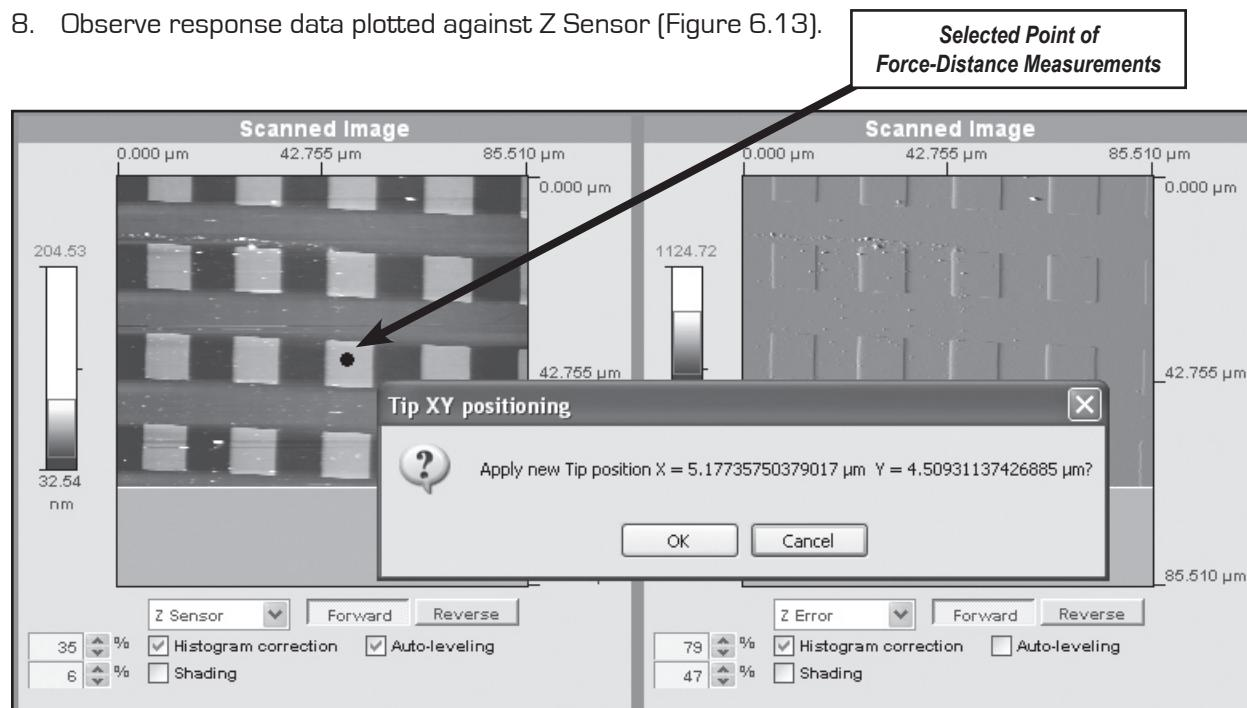

Figure 6.12: Position the probe where you would like Force-Distance measurements to be taken, step 2.
2. Select the point where the FD curve needs to be measured by clicking **Ctrl+left_mouse_click**, Figure 6.12.